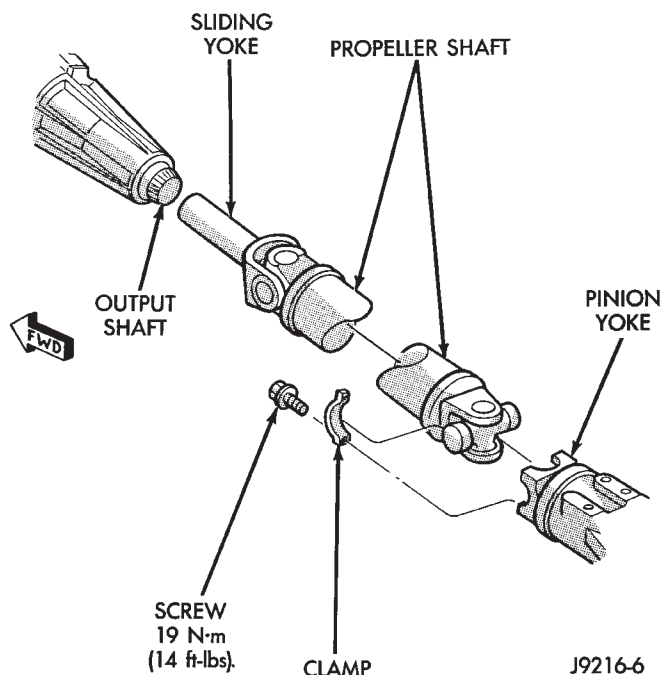

Fig. 17 Rear Propeller Shaft
(1) Shift the transmission and transfer case (if applicable) to their Neutral positions. Raise the vehicle.
(2) Scribe alignment marks at the pinion shaft and at each end of the propeller shaft. These marks will be used for installation reference.
(3) Remove the U-joint strap bolts at the pinion shaft yoke.
(4) Slide the slip yoke off of the transmission/transfer case output shaft and remove the propeller shaft (Fig. 17).
(1) Slide the slip yoke on the transmission/transfer case output shaft. Align the installation reference marks at the axle yoke and install the propeller shaft (Fig. 17).